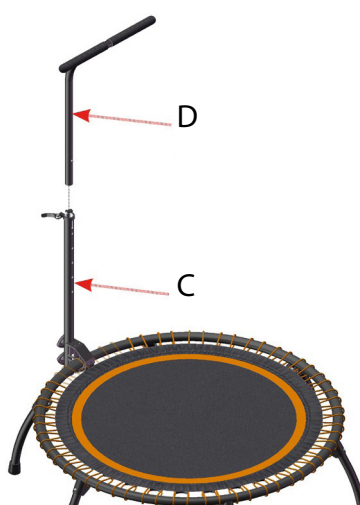

Fig. 12
Insert the adjustable tube (D) into the support tube (C) (see fig. 12).
① **NOTICE**